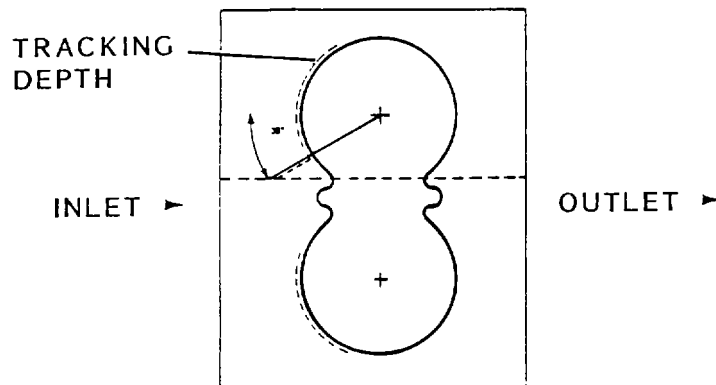

Figure 4-17. Body Bore Measurement
- (1) Inspect the pump body for external damage and cracks, etc. Examine the body bore for damage and excessive wear. It is normal for the gears to have cut a light track in the body bore on the inlet side. If the body is in good condition, with no excessive scoring or other damage of the gear track and the depth of the track does not exceed 0.10mm (0.004"), the body is re-usable.
- (2) Using a Vernier height gauge and dial test indicator, measure the body bore track depth (Figure 4-17).